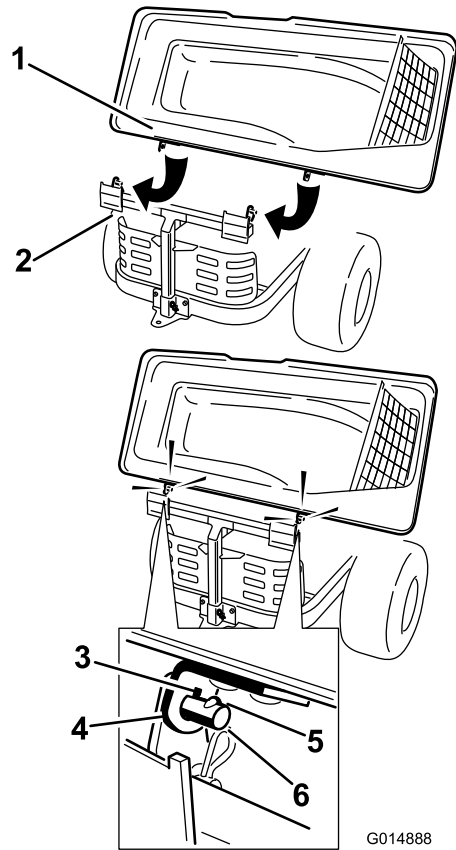

Figure 20
- 2. Rotate the bagger top to align the key holes in the bagger top brackets with the keys in the posts on the bagger frame (Figure 20).